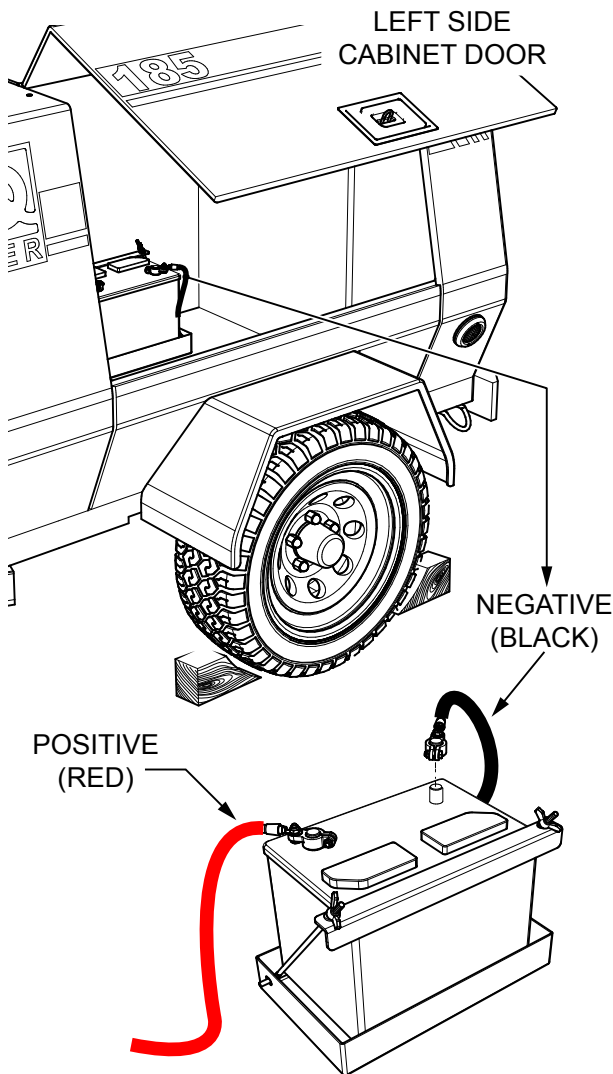

Figure 2. Battery Cable Disconnection
2. Disconnect negative cable (**BLACK**) from the negative terminal on the battery. See Figure 2.